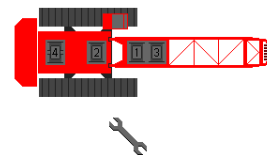

FIGURE 3-30
5. Scroll to the setup screen with the wrench icon (Figure 3-30).